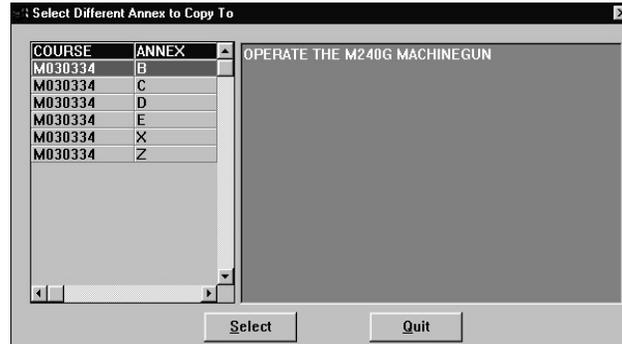

Figure 6-77. Select Different Annex To Copy To
- b. If you choose Select Another Annex, the Select Different Annex To Copy To selection list box (Figure 6-77) opens. You are presented with a list of all existing annexes in the Working course.
- b. If you choose Select an Existing Annex, the Select Different Annex To Copy To selection list box (Figure 6-77) opens. You are presented with a list of every annex in the Working course including the one with the matching designator. Highlight the annex to which you wish to assign the incoming concept card. If you choose the annex with the same designator, MCAIMS will not overwrite the annex title and scope in the Working course. Proceed to Step 8.
- b. If you choose Select Another Annex, the Select Different Annex To Copy To selection list box (Figure 6-77) opens. You are presented with a list of all other annexes in the Working course to which you could assign the incoming concept card. Highlight the desired annex and click on **Select**. Proceed to Step 8.